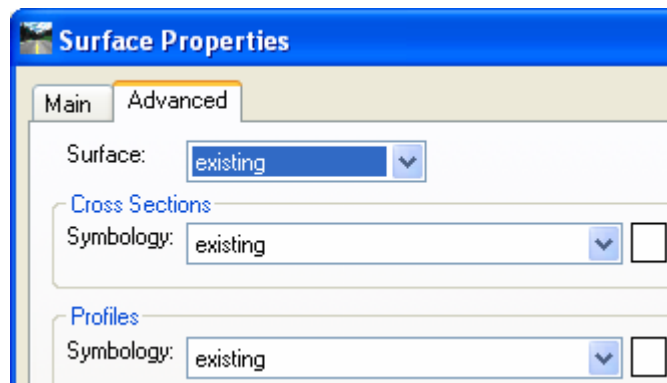

Figure 3-4 InRoads Top Left corner of the Advanced Tab - Surface Properties Dialog Box
- A. On the InRoads Main Menu Select **Surface > Surface properties**. Select the **Advanced Tab** (Figure 3-4). Write down what appears in the cross Section field “Symbology:”, this field is case sensitive.